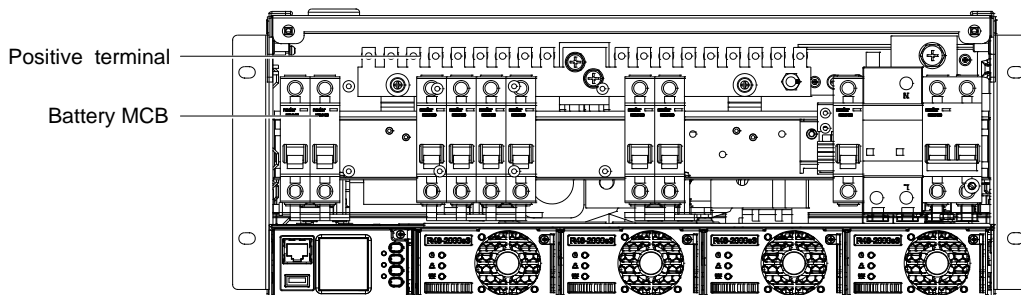

Figure 2-12 Illustration of the battery connection terminal
2. Connect copper lugs to the other end of the battery cables. Bind the connecting parts with insulating tape, and put them beside the battery. Connect the cables to the battery when the DC distribution unit is to be tested. As shown in Figure 2-12.